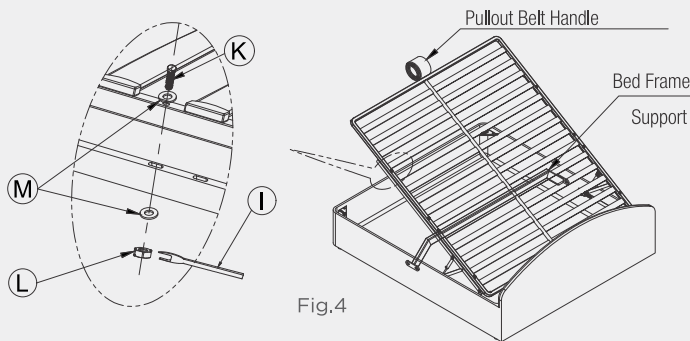

Fig.4
5. Fit Frame onto Bed Fitting with help of Screw & Nut as shown in Fig.4.
7. Bed Frame Support can be fitted as per user convenience (Ref. Fig.4).